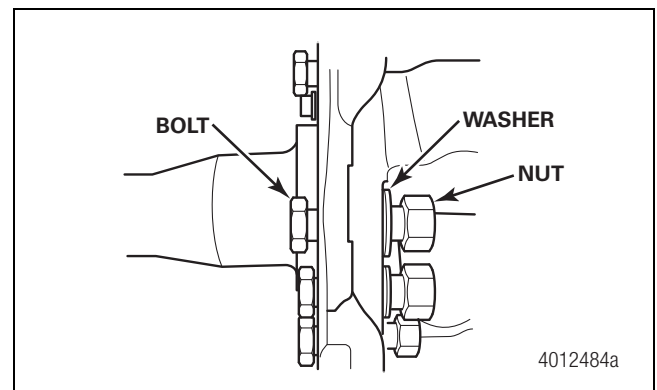

Figure 39
4. For FH941 and FH946 model axles, install the bolts from the outside face and the washers and nuts on the inside face. Tighten the nuts to 310-400 lb-ft (420-540 N•m). Figure 39.